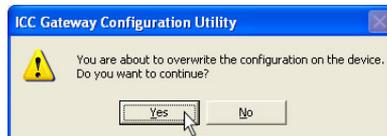

Figure 14: Confirm Download
- Click “Yes” to confirm on the dialog box that appears (Figure 14).